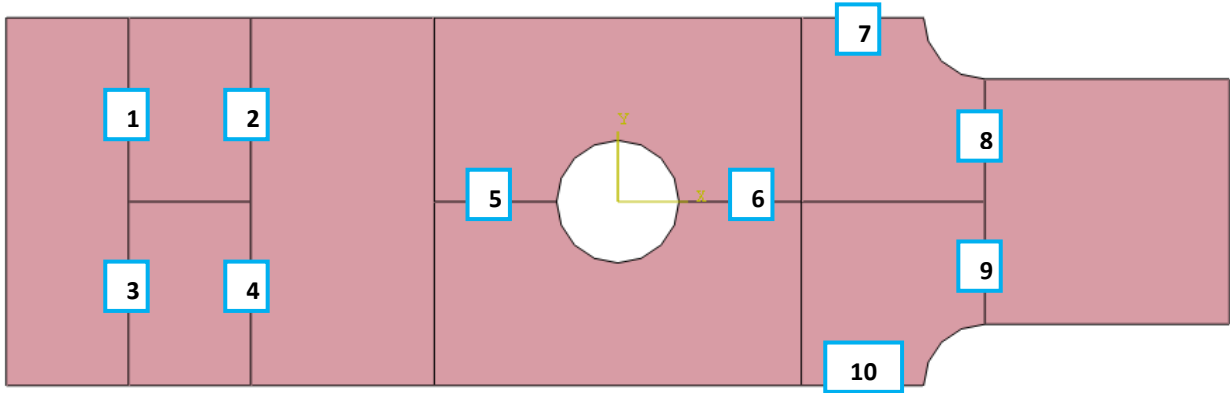

Figure 18. Selected Biased Edges
- The edges listed in Figure 18 are to be seeded with a bias. Table 2 lists the edge number (1-10), the bias ratio, and how many elements along the length of that edge. Note, when clicking the edge to be seeded, click the side of the edge where the bias should be denser. A red arrow will point where the mesh will be more refined.